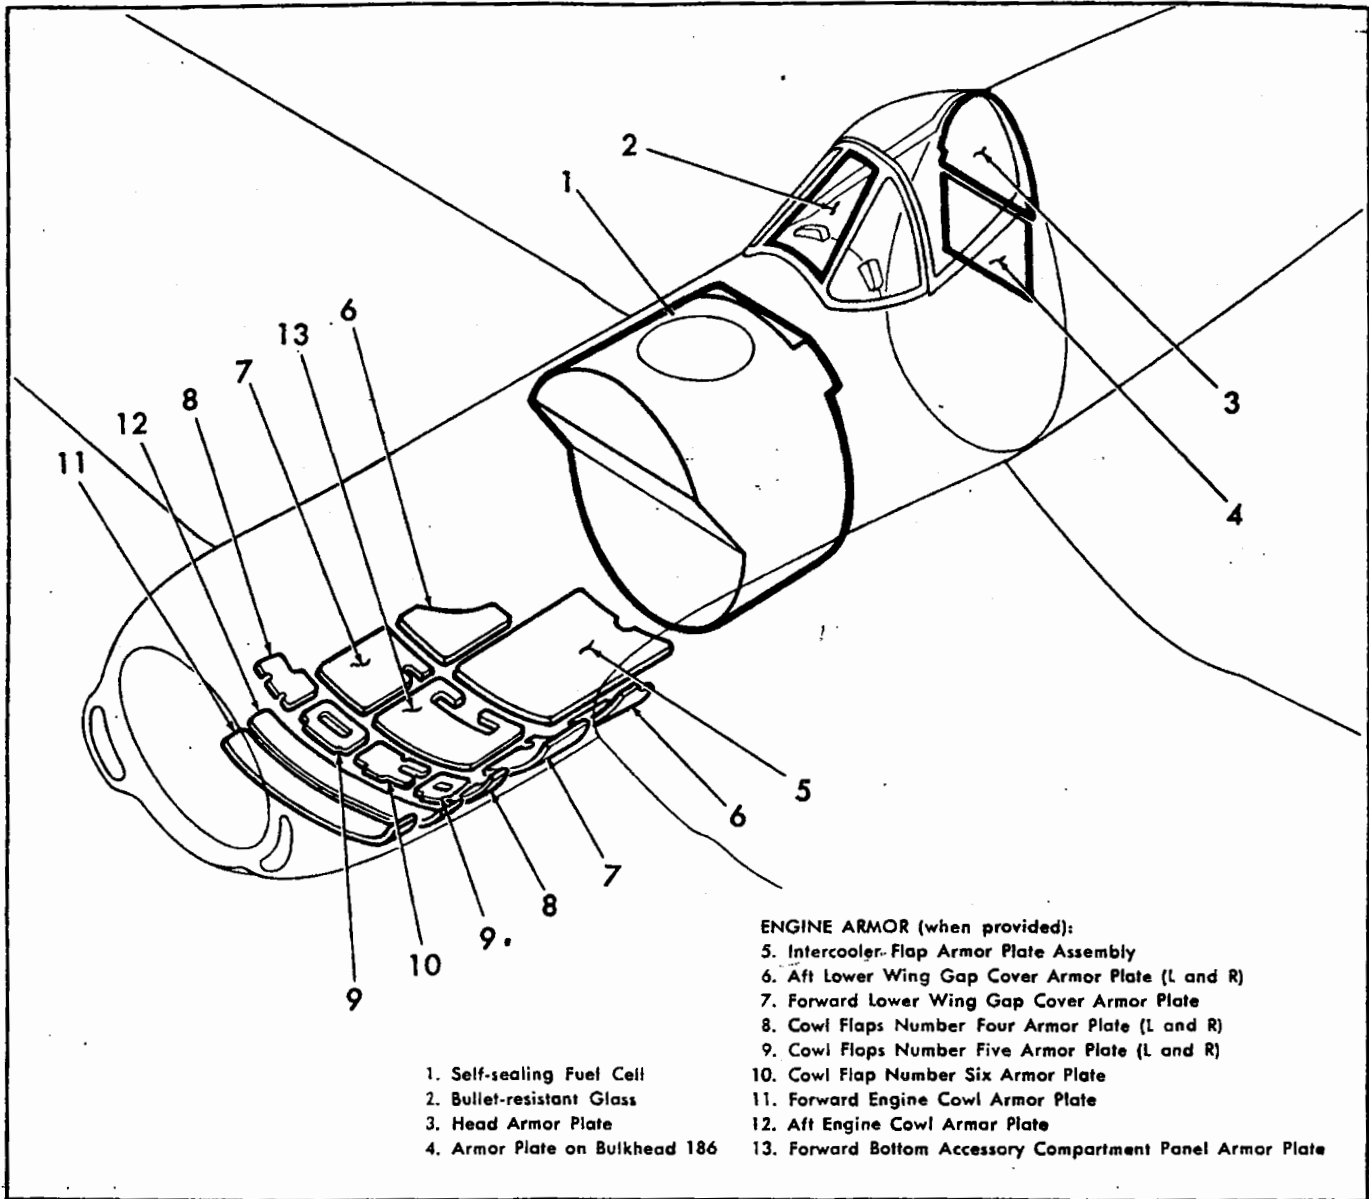

Figure 4-161. Armor Plate and Bullet-resistant Glass Installation.
4-1840. DESCRIPTION. (See figure 4-161.) The armor plate protection for the pilot consists of head armor plate and of armor plate on bulkhead 186. Both plates are located aft of the pilot's seat. The head armor plate is designed to fit the contour of the turtledeck overturn structure. The lower armor plate is an integral part of bulkhead 186. The pilot is protected from forward fire by a bullet-resistant glass panel in the center of the windshield and by the self-sealing main fuel cell which is installed forward of the instrument panel. Built into all airplanes are provisions for the installation of engine armor plates. The specially designed engine armor plates, when installed, protect the lower portion of the engine.
4-1842. DESCRIPTION. (See figure 4-161.) The head armor plate (3) is a sheet of homogeneous bullet proof steel, $\frac{7}{16}$ inches thick and $25\frac{7}{16} \times 24\frac{1}{2}$ inches in size, weighing 36.48 pounds. It is located aft and above the pilot's seat. The plate is bolted at its lower corners to forged gussets which are installed on the upper longerons at bulkhead 186. The armor plate is fastened along its contour edge to the fuselage skin and its top is bolted to the turtledeck overturn fitting. The headrest, shoulder strap harness support, and special bolts for pilot's seat return springs are attached to the forward side of the head armor plate. A pulley support bracket is bolted to its aft side. A shim installation separates the head armor plate from the lower armor plate of bulkhead 186.
4-1846. DESCRIPTION. (See figure 4-161.) Bulkhead 186 is located aft of the pilot's seat, forming the main forward bulkhead of the mid-section at the point where front and mid-sections are joined. The armor plate (4) is made of one-half inch 24ST aluminum alloy, is 22 1/8 x 17 7/16 inches in size, and weighs 19.10 pounds. It constitutes the upper center web of bulkhead 186. It is bolted at its upper corners to the same forged gusset fittings to which the head armor plate is attached. It is secured to the bulkhead reinforcing side web plates by means of bolts and rivets. A double track and a seat adjusting support assembly are bolted and riveted to the forward side of the plate. A shelf bolted to the aft side of the plate, supports the radar equipment. A beam, also bolted to the aft side of the plate, carries the sliding section hydraulic actuating cylinder and hydraulic tubing to the tail gear.
4-1852. DESCRIPTION. (See figure 4-161.) The windshield center pane is bullet-resistant glass (2). It is a laminated plate glass, one-and-one-half inches thick and 15.60 x 24.25 inches in size, and weighs approximately 38 pounds. The glass is held in a welded metal frame. The channel portion of the frame is taped with Everseal tape for protection and sealing purposes. The bullet-resistant glass frame is held to the windshield by means of formers and retainers. Two flanges at the lower corners of the frame are bolted to the cowl at the base of the windshield. For information on cleaning bullet-resistant glass, refer to paragraphs 4-1903 and 4-1904.
4-1856. DESCRIPTION. (See figure 4-161.) Provisions for the installation of engine armor plate are built into all airplanes. If provided, the engine armor plate installation protects the power plant section at nine vital points. Homogeneous bulletproof steel, 3/16 inches thick is used throughout, except at the accessory compartment, where a sheet of 24ST aluminum alloy, one-half inch thick, forms the outer skin of the intercooler flap armor plate assembly.
4-1858. DESCRIPTION. (See figure 4-161.) The forward engine cowl armor plate (11) is a sheet of homogeneous bulletproof steel 3/16 inches thick, 11 x 44 inches in size, and weighing 22.85 pounds. It is bolted to clips and channels which are attached to the inside of the forward portion of the engine cowl bottom panel.
4-1861. DESCRIPTION. (See figure 4-161.) The aft engine cowl armor plate (12) is made of homogeneous bulletproof steel, 3/16 inches thick, 9 1/4 x 43 inches in size, weighing 18.70 pounds. The armor plate is bolted to brackets which are attached to the inside aft portion of the bottom engine cowl panel.
4-1864. DESCRIPTION. (See figure 4-161.) The Number four left and right cowl flaps are equipped with armor plate (8) made of homogeneous bulletproof steel, 3/16 inches thick, 8 3/4 x 12 1/2 inches in size, and weighing 4.04 pounds each. The plates are bolted to the flap pan assembly. Countersunk spacers are placed between the outer skin and the pan. They act as guides and retainers for the bolts and prevent crushing of the thin gage surface skin when the armor plate is installed.
4-1867. DESCRIPTION. (See figure 4-161.) The Number five left and right cowl flap armor plates (9) consist of two sheets of homogeneous bulletproof steel, 3/16 inches thick, 10 1/4 x 10 1/4 inches in size, weighing 3.75 pounds each. The armor plates have special cut-outs along the edge and are bolted to the cowl flap pan assemblies by means of countersunk head bolts.
4-1870. DESCRIPTION. (See figure 4-161.) Engine cowl flap number six is located on the centerline of the airplane between cowl flaps number five. The armor plate (10) of flap number six is homogeneous bulletproof steel, 3/16 inch thick and 10 1/2 x 10 1/2 inches in size, weighing 6.80 pounds. The plate is bolted to the cowl flap pan assembly.
4-1873. DESCRIPTION. (See figure 4-161.) The left and right forward wing gap cover armor plates (7)
4-1876. DESCRIPTION. (See figure 4-161.) The left and right aft wing gap cover armor plates (6) are made of homogeneous bulletproof steel 3/16 inch thick, 14 x 15 1/2 inches in size, and weighing 8.42 pounds each. The plates are bolted to the inside skin of each panel by means of countersunk head bolts.